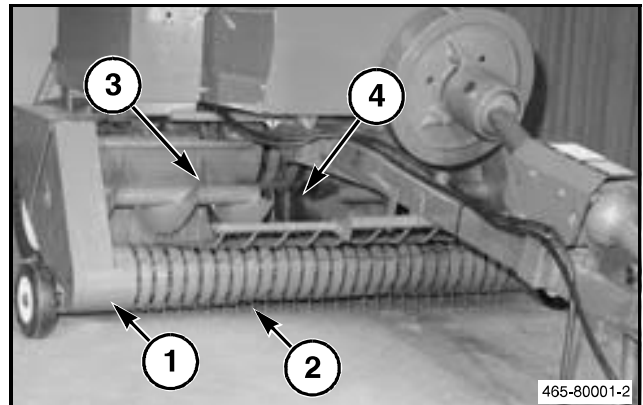

FIG. 7
FIG. 7: Continuous flow, straight through feeding is possible with the wide, low profile pickup assembly (1). Hay from the windrow is picked up by the closely located tines (2) of the pickup assembly and moved by an auger (3) into a charge chamber (4). The in line charge chamber feeds the baling chamber from the bottom.